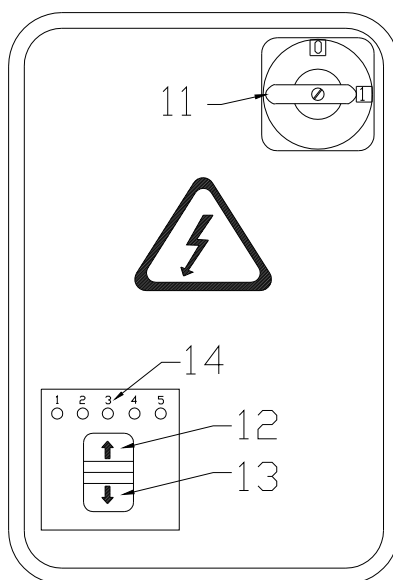

Fig.20
### 6. BEDIENING EN GEBRUIK (Fig.20)
(Fig.20 ref14)**